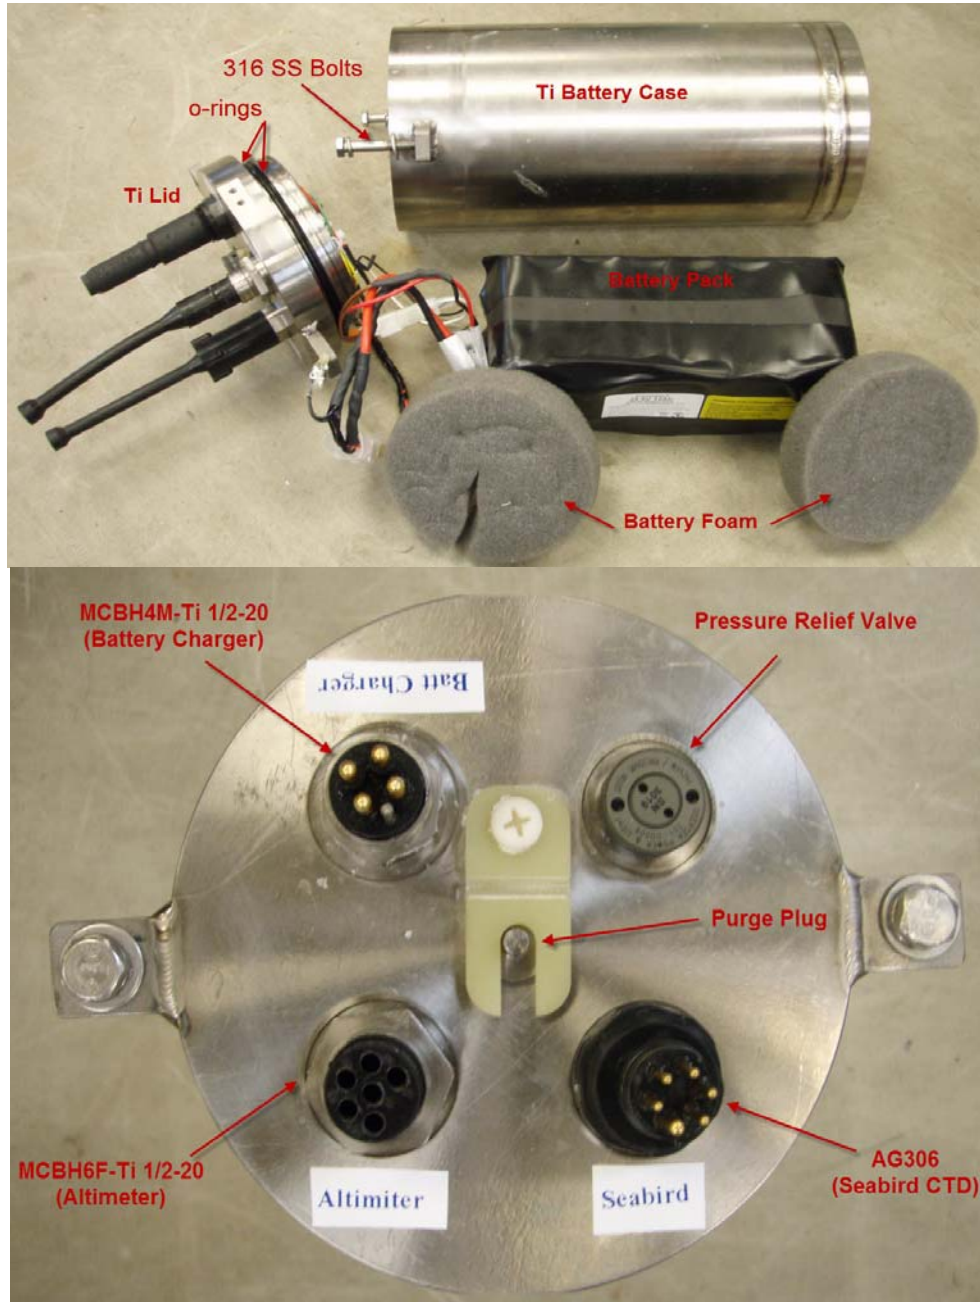

Figure 1: Battery Case.
- 1) Battery case - tested to 10,000psi (Figure 1):